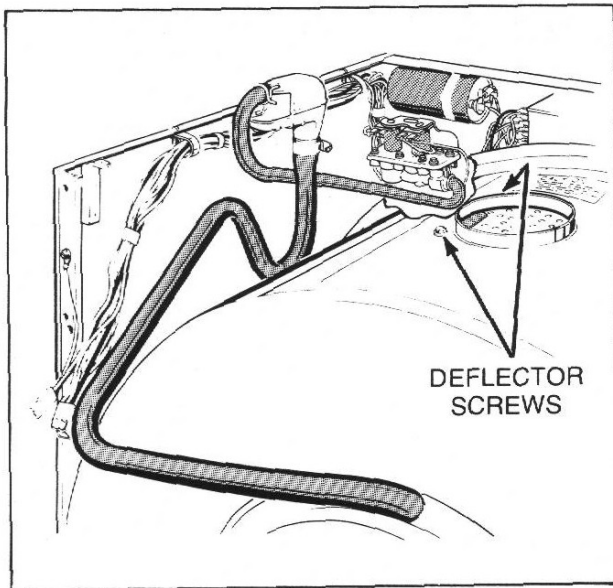

Figure 34
- g. Remove two screws holding water deflector to outer tub, *Figure 34*, and remove deflector out through dispenser opening.